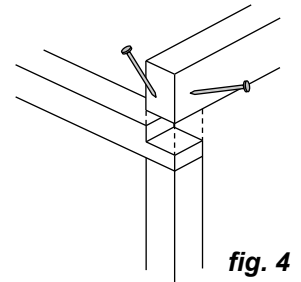

fig. 4
- 2.5 The final top plate is not rebated as it is intended to sit higher than the frame to create the slope of the roof. Fit this plate into the remaining rebate on the top plate and nail as per *fig.4*